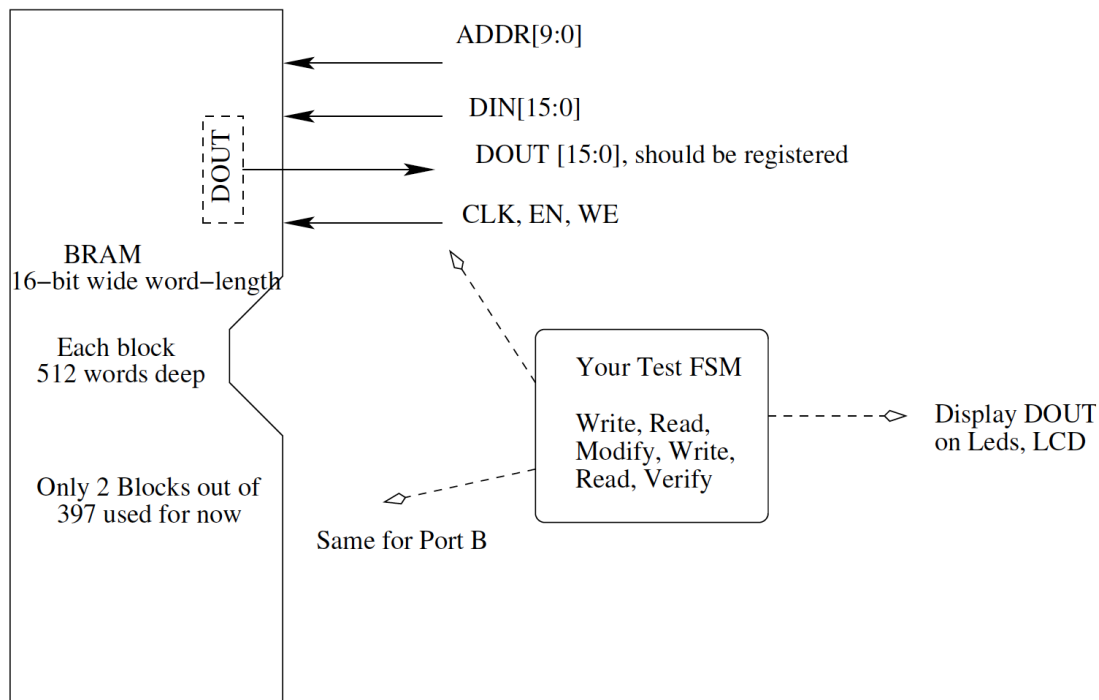

Figure 2: A sample interface between the synthesize Block RAM and your test FSM
A nice generic interface to memory from your CPU might look similar to Figure 2. In this interface the program counter (PC) of your CPU sends its value to the memory as the address to read from (to the Memory Address Register or MAR). The data at that address is read back through the Memory Data Register (MDR) and goes both to the Instruction Register (IR) and to other places in the CPU such as the ALU.